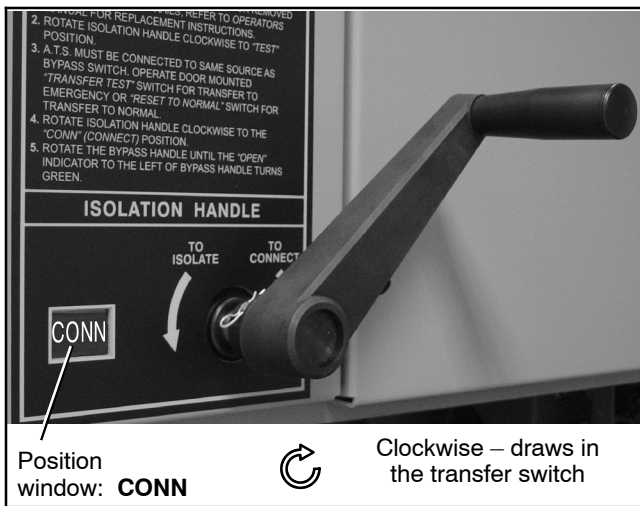
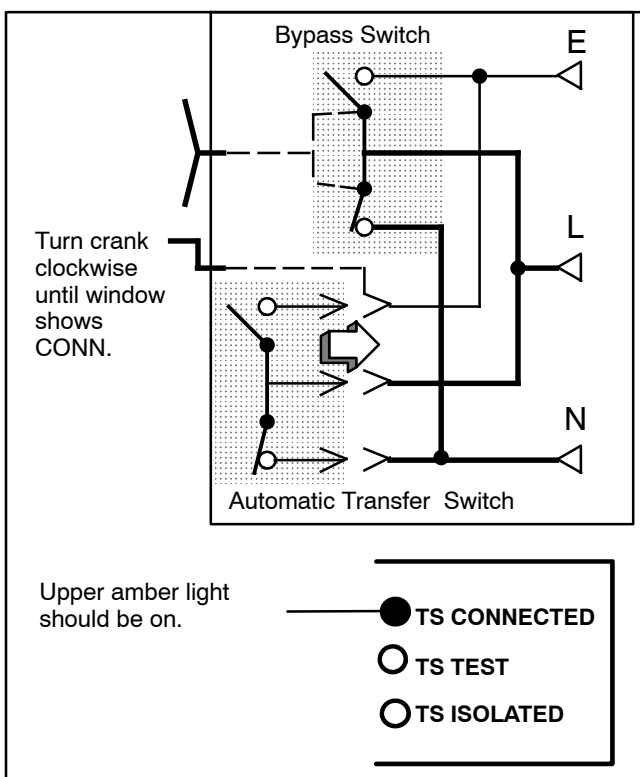

Figure 7-47 Isolation Handle Turned to CONN
Figure 7-48 TEST to CONN (Connected) Position
- 5. When the transfer switch is in the *same* position as the bypass switch handle, continue turning the isolation handle clockwise (about 8 turns) until the window shows CONN (connected). See Figure 7-47 and Figure 7-48.